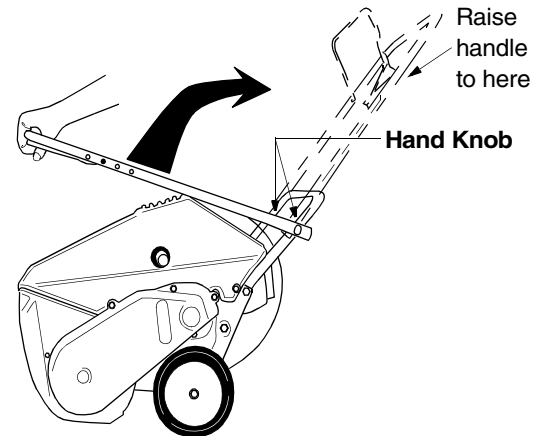

Figure 3
- Raise the upper handle in the direction shown in Figure 3 till it clicks into the operating position. Make sure not to pinch or crimp the cable.